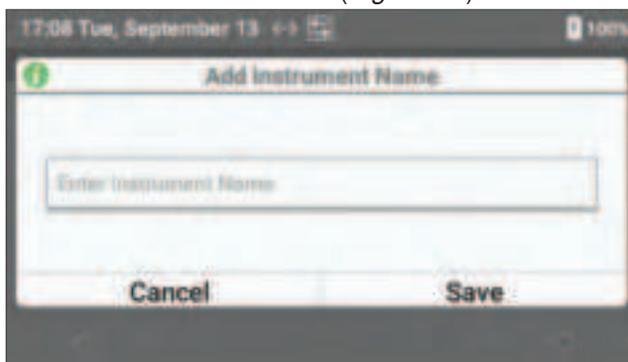

Figure 22: Add Instrument Name
- 2 Enter the **Instrument Name** and select **Save** (Figure 22).